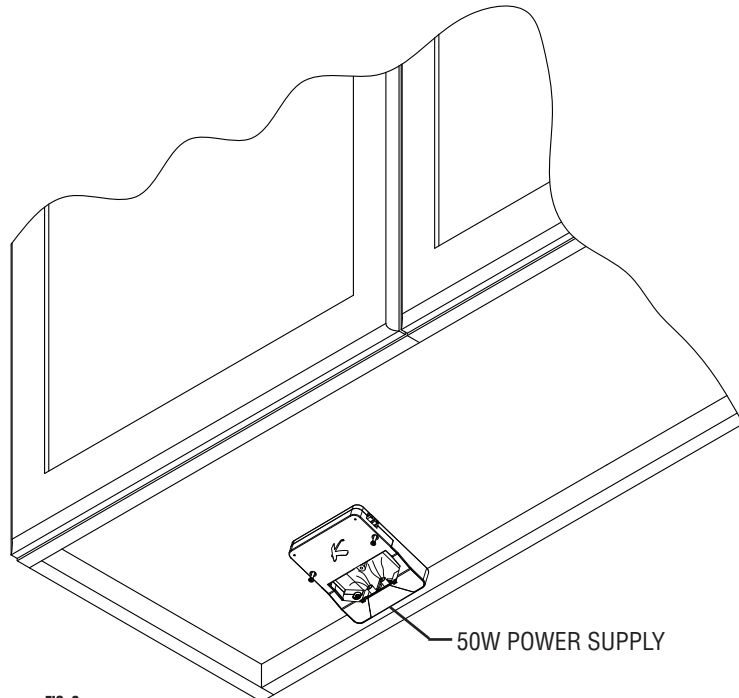

FIG. 3
- Position the housing against the back of the cabinet and fasten the housing to the mounting surface using the captive screws. (See Fig. 3 and 4)